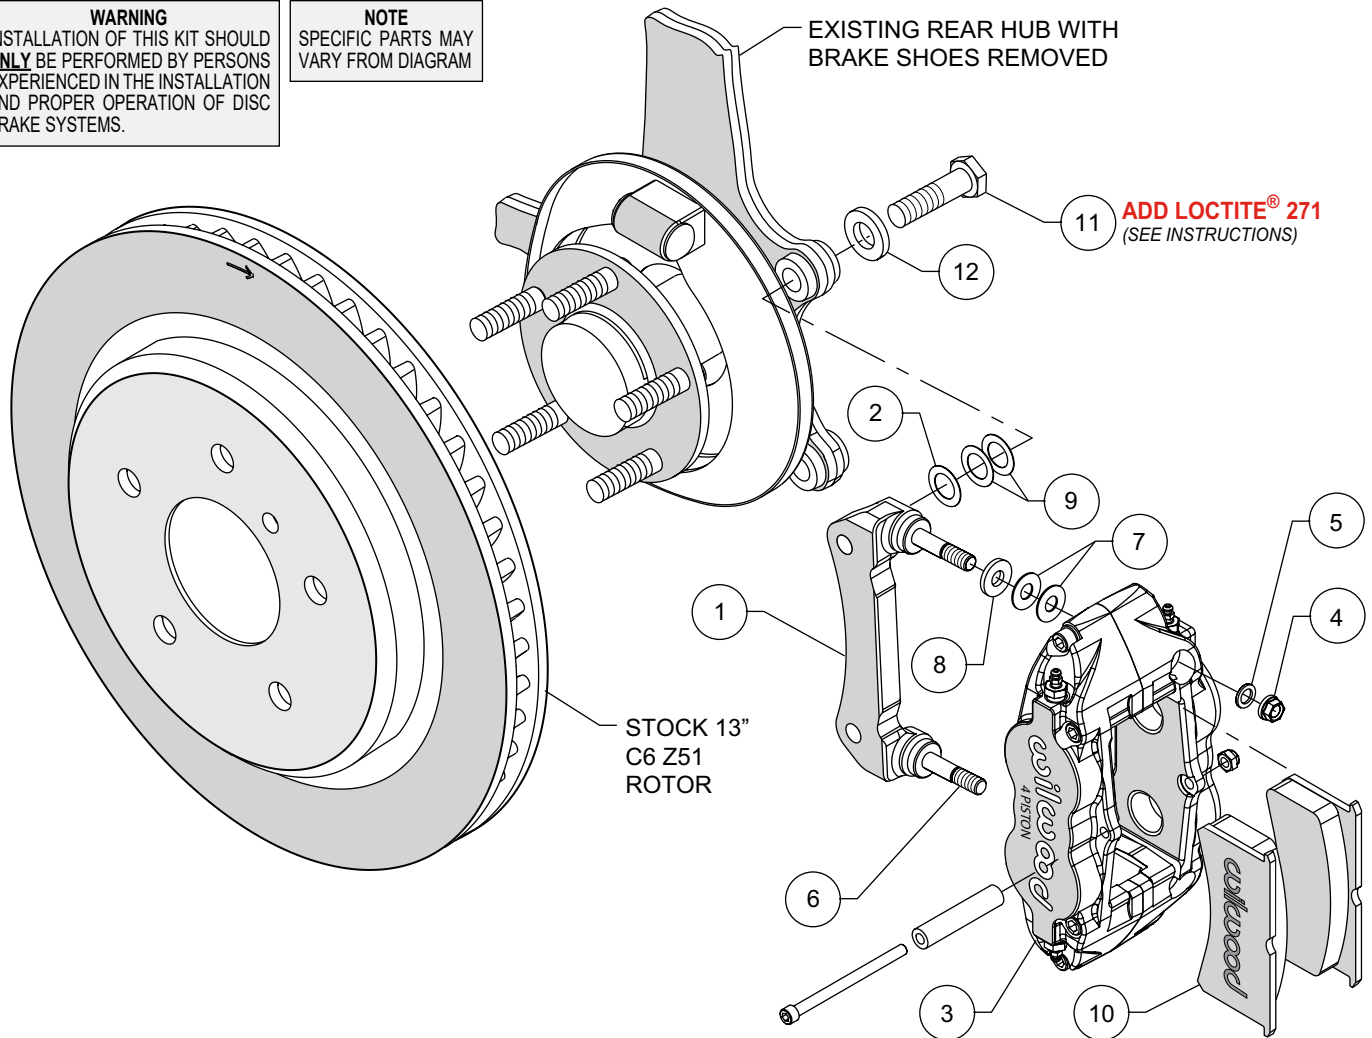

Figure 1. Typical Installation Configuration
**Assembly Instructions** (numbers in parenthesis refer to the part lists and Figure 1 on the preceding pages):
- The caliper mount bracket (1) should initially be installed with clean, dry threads on the mounting bolts. Orient the bracket, as shown in Figure 1 and install using bolts (11) and washers (12). Initially place two .029" thick shims (9) and one .015" thick shim (2) on each bolt between the bracket and upright, Figure 1. Temporarily tighten the mounting bolts. **NOTE: The bracket must fit squarely against the mount bosses on the upright.** Inspect for interference from casting irregularities, machining ridges, burrs, etc. Later, after the caliper alignment has been checked, the mount bolts will be secured using red *Loctite*® 271.
- Initially place two .035" thick shims (7) and one .062" thick spacer (8) on each stud (6) as shown in Figure 1 and Photo 1. Mount the caliper (3) onto the bracket (1) using lock nuts (4) and washers (5), Figure 1. Temporarily tighten the lock nuts and view the rotor through the top opening of the caliper. The rotor should be centered in the caliper, Photo 2. If not, adjust by adding or subtracting shims (2 and/or 9) between the bracket and the mounting bosses. Always use the same amount of shims on each of the two mounting bolts. Once the caliper alignment is correct, remove the bracket mounting bolts (11) one at a time, apply red *Loctite*® 271 to the threads, torque to 77 ft-lb.